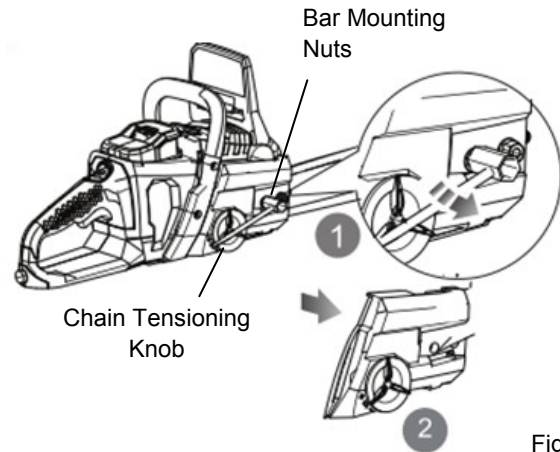

Fig. 5
- Loosen the chain by turning the chain tensioning knob counterclockwise. Remove the bar mounting nuts from the cover using the combination wrench provided. Remove the chain cover. (Fig. 5)